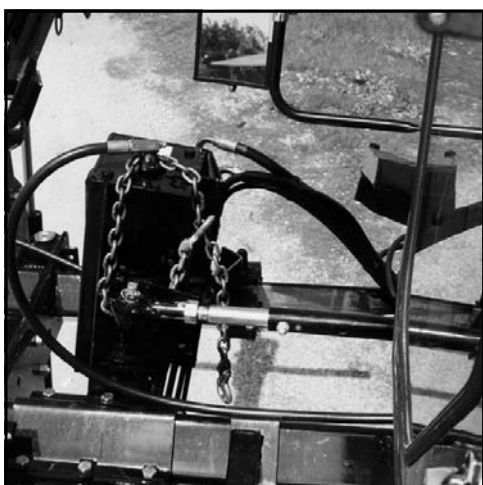

FIG 4.5
6. Wrap a chain around the top of the leg and the steering arm before raising the detasseler (fig. 4.5). This will prevent the suspension from telescoping.